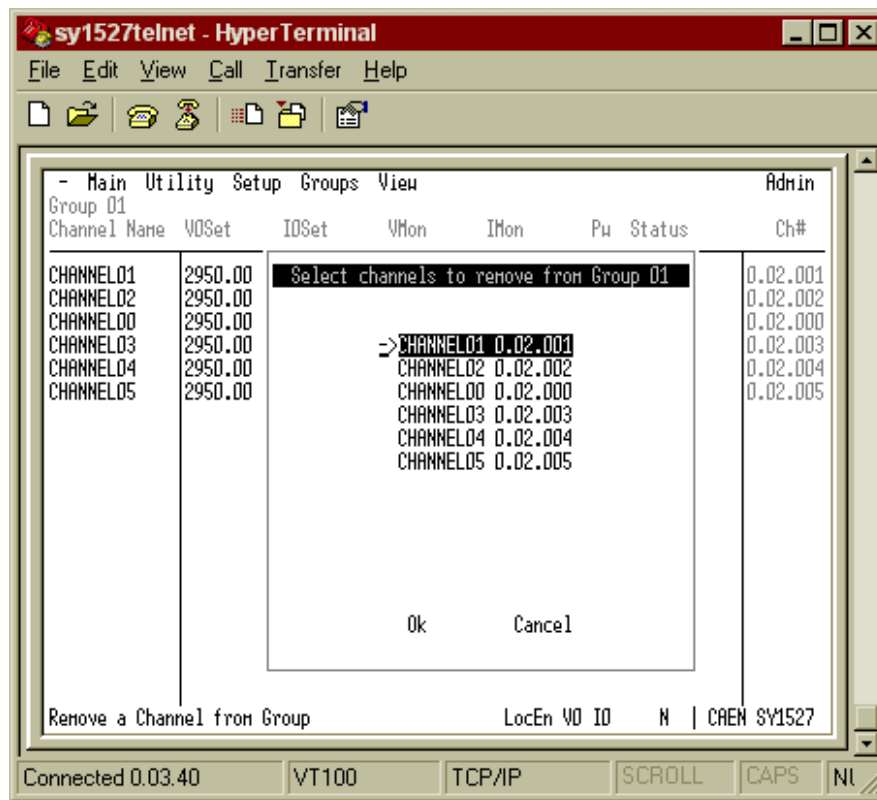

Fig. 7.12 – Remove Channels pop-up Window
6. Select **Remove Channels Window** (Fig. 7.12): a pop-up window will show a list containing all the channels which are already included in the current group;